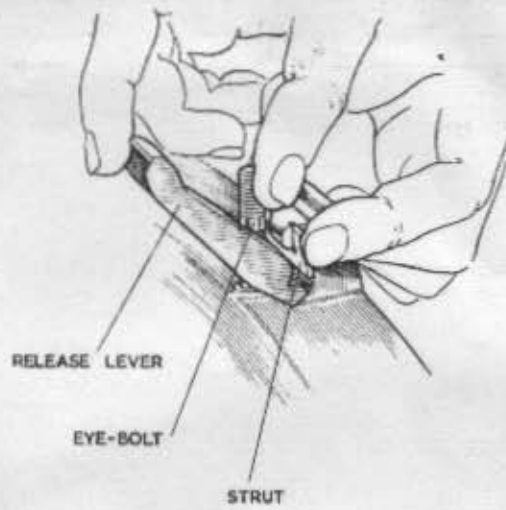

Fig. 3. Removing Release Lever and Eye-bolt.
6. Lift each eye-bolt in turn, draw the release lever towards the eye-bolt as far as possible and disengage the strut from the heel of the lever by pulling the strut towards the outer edge of the pressure plate (see Fig. 3). Withdraw each eye-bolt and release lever unit and detach the struts; mark each strut with its position number.
3. Note the position of the release levers, then assemble the eye-bolt and lever assemblies into their respective positions in the following manner. Hold the threaded end of the eye-bolt and the inner end of the release lever as close together as possible (see Fig.3). Draw the strut towards the outer edge of the pressure plate and fit the eye-bolt into its location.